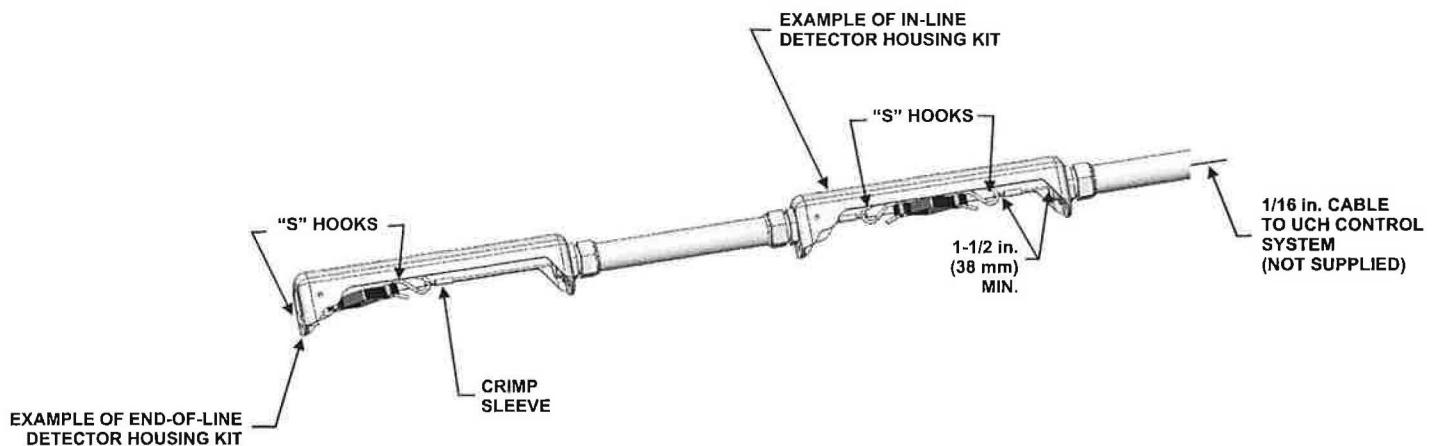

Figure 4-21. Detector Housing Kit Installation, P/N 804548
6. Install detectors of proper rating as described in Paragraph 2-2.3. To install detectors, use the following steps. Always start detector installation at the last detector (see Figures 4-21 and 4-22).